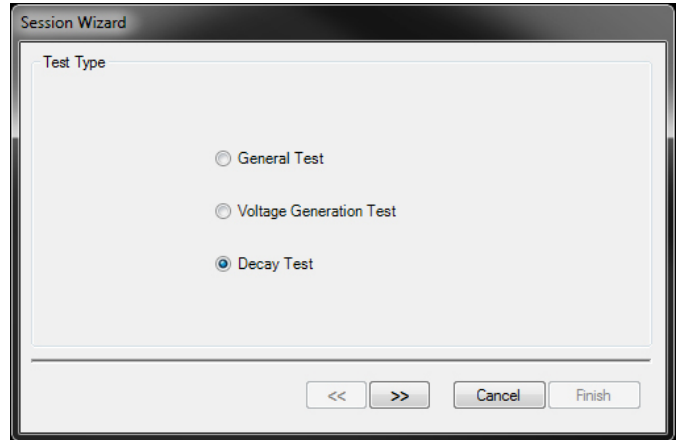

Figure 10: Use the first Session Wizard Window to Designate the Type Test
- 6. Select **“Start a New Session Wizard”** and Click **OK** as in Figure 9, will open Session Wizard Test Type screen (Figure 10). Select Test Type and provide the requested information to be included in test reports. See The Session Wizard section below for further details.
The Opening Screen (Figure 10) is used to designate the type of test to be conducted. In the illustration at right, decay testing is the intent of the test.